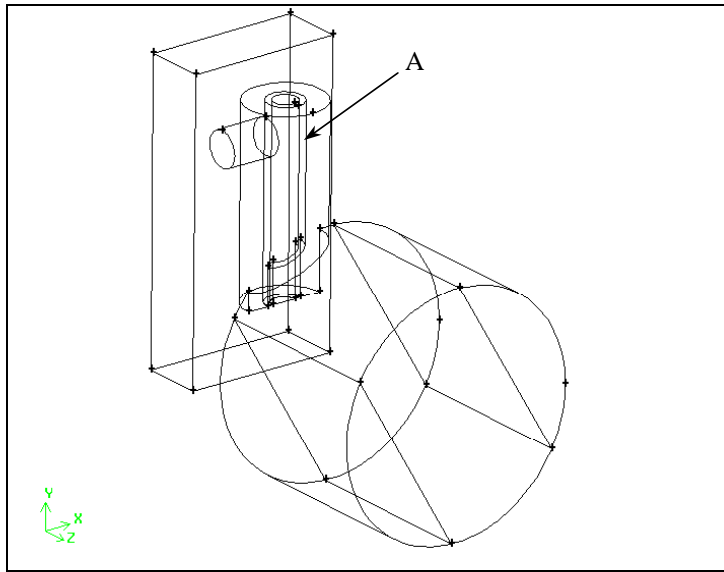

Figure 7-17: Volume to use in subtraction
- a) Select the volume that contains most of the pipe sections in the geometry (the volume marked A in Figure 7-17). Accept the selection of the volume.